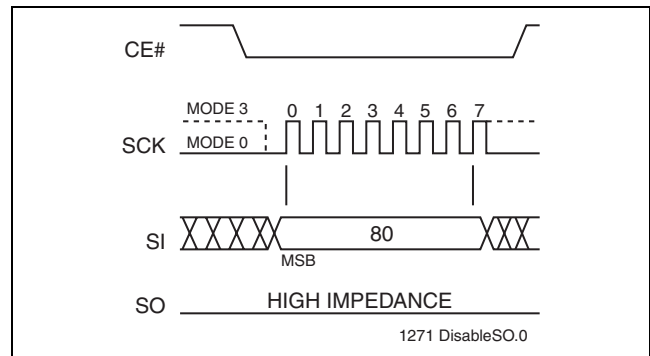

FIGURE 8: DISABLE SO AS HARDWARE RY/BY# DURING AAI PROGRAMMING
The 8-bit command, 80H, disables the Serial Output (SO) pin to output busy status during AAI-Word-program operation and return SO pin to output Software Status Register data during AAI Word programming. (see Figure 8)